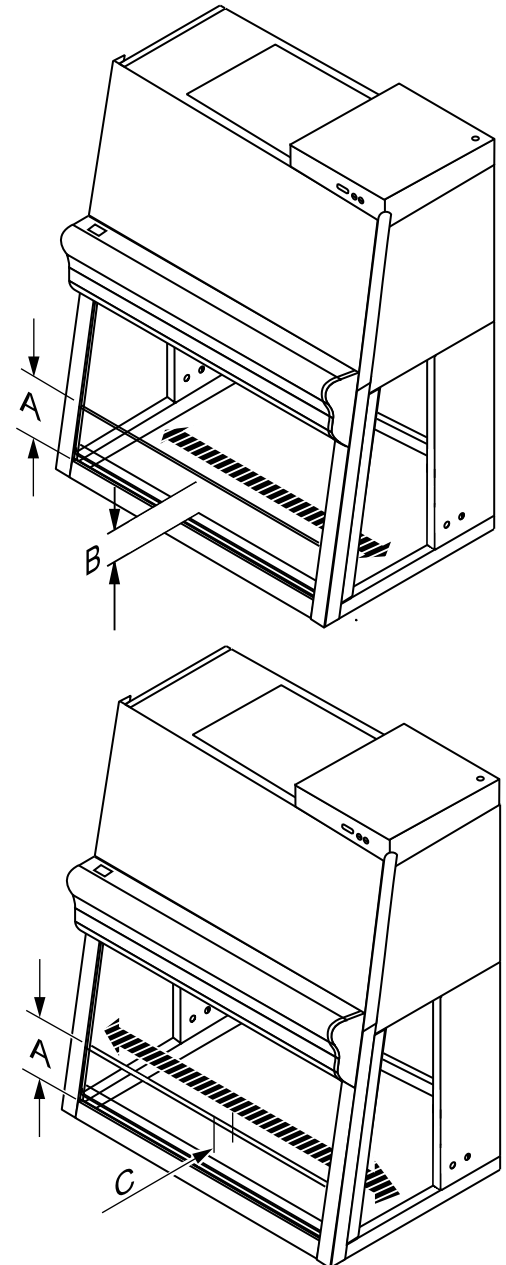

Fig. A9,
1. **Fig. A9:** Move the front window to the safe working position **A**.